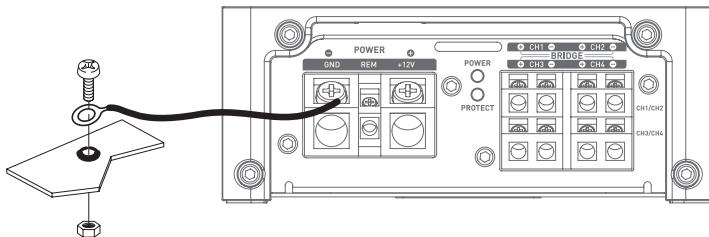

fig. 2
- 10 - Prepare the chassis ground (earth) by removing all traces of paint from the metal surface, thus ensuring a good ground (earth) contact. Ground (earth) connections should be as short as possible and **ALWAYS** connected to metal welded to the vehicle bodywork or chassis (*Fig. 2*). The grounding (earthing) point usually chosen is the one used to connect the negative terminal of the battery to the vehicle chassis.
**3.3.2 –** Locate the negative (-) power cable. This cable should be as short as possible and ideally should not exceed 1 meter in length, in order to ensure an optimal connection between the amplifier and the vehicle chassis. The cable and its gauge must be in accordance with the table in 3.1. Locate an appropriate ground (earth) point, then sand it to remove all traces of paint or other finish, thus optimising the quality of the connection. Drill through the sheet metal you have previously sanded, making a hole to match the bolt you have chosen, ensuring you are well clear of all cable routes, reservoirs or tanks or other sensitive vehicle parts. Solder and insulate (using heat shrink sleeving) the earth cable to the FPX amplifier earth connector supplied (**Fig. 2**).